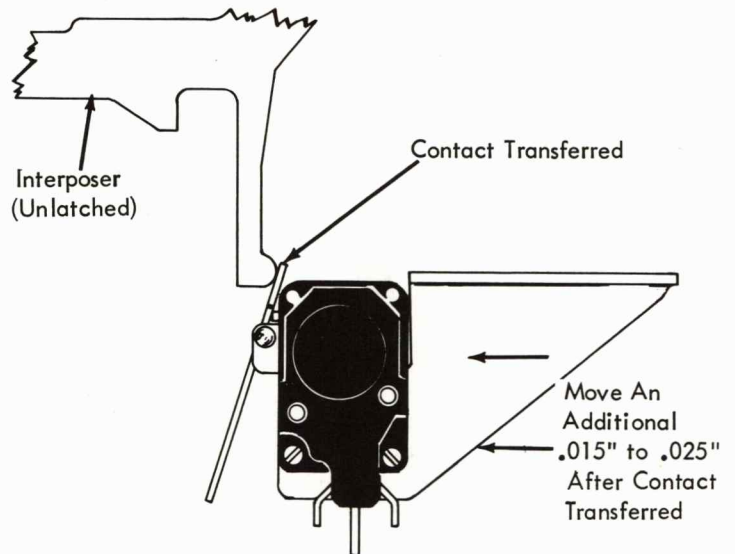

FIGURE 130. Contact Mounting Bracket
2. With the interposer tripped and to the rear, adjust the interposer switch mounting bracket, front to rear, so that the tripped interposer will transfer the switch contacts, then move the bracket an additional .015" to .025" (Fig. 130).